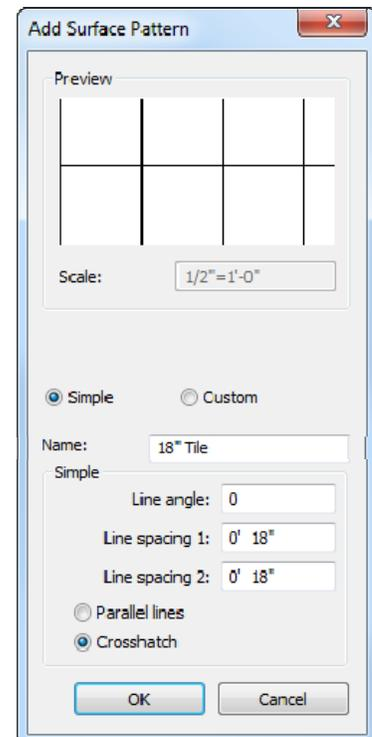

FIGURE 4-3.22 Add surface pattern
92. Create a new pattern named **18" Tile** – adjust the settings to match Figure 4-3.22.